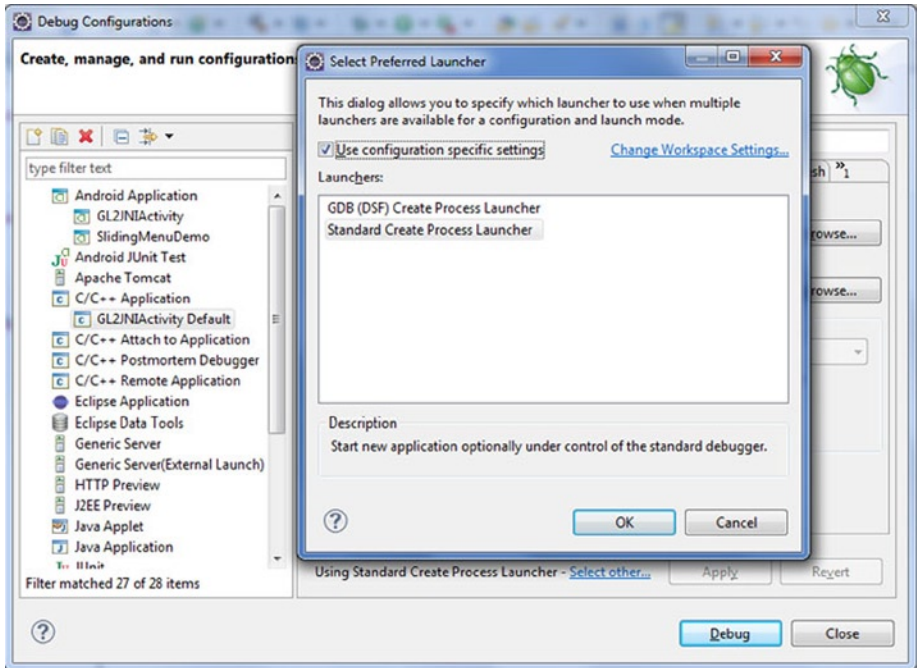

Figure 8-22. Select Preferred Launcher
8. Switch the launcher type to Standard Create Process Launcher (see Figure 8-22) using the link Select Other link at the bottom of the window.